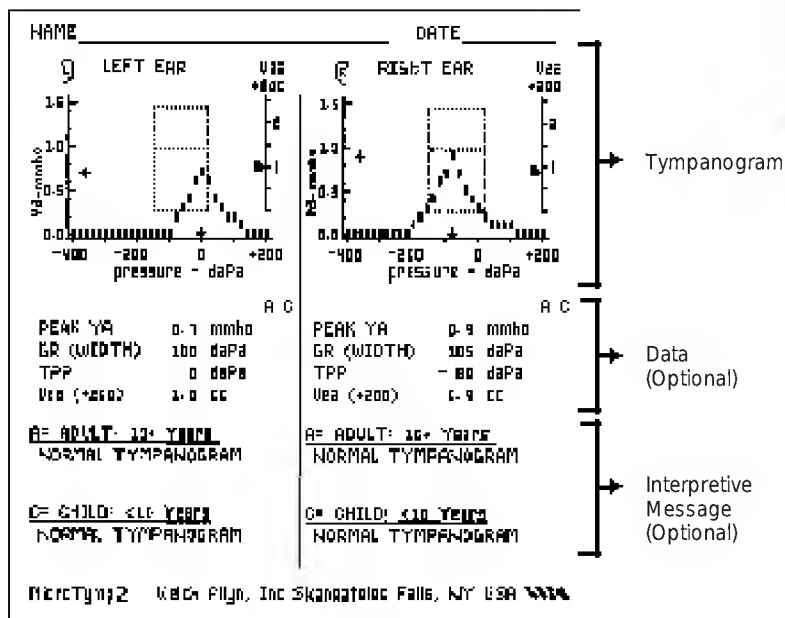

Figure 21
- **The Printer/Charger has been pre-set at Welch Allyn to print a complete printout as illustrated in Figure 21 on page 17, and to print in manual mode. To change formats or print in automatic mode, follow the instructions on page 20.**
A complete tympanometric printout is shown in **Figure 21**. The printout is divided into three sections: tympanogram, data, and interpretive messages. Following is a detailed account of the information presented in each of these sections. For instructions on changing the format of the printout, see page 20.